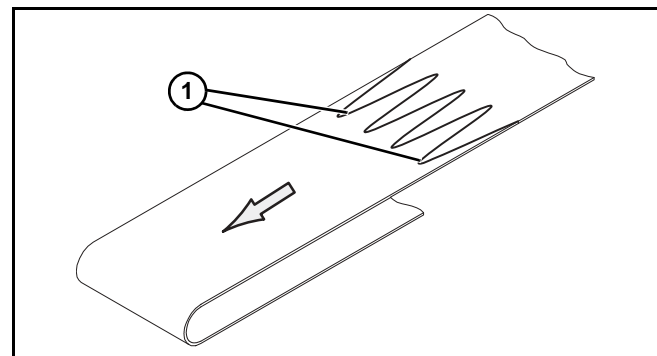

Figure 71
- Orient the conveyor belt so that the splice leading fingers (**Figure 71, item 1**) point in the direction of belt travel, indicated by the label (**Figure 70, item 1**).